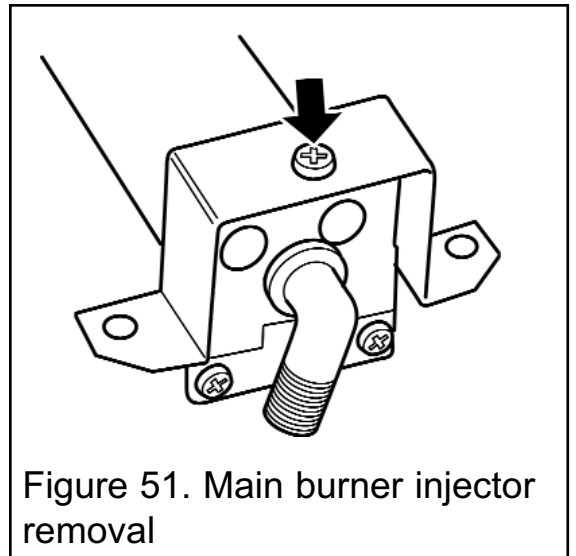

Figure 51. Main burner injector removal
(See figure 51).
2. Remove the burner clamping screw (See figure 51)